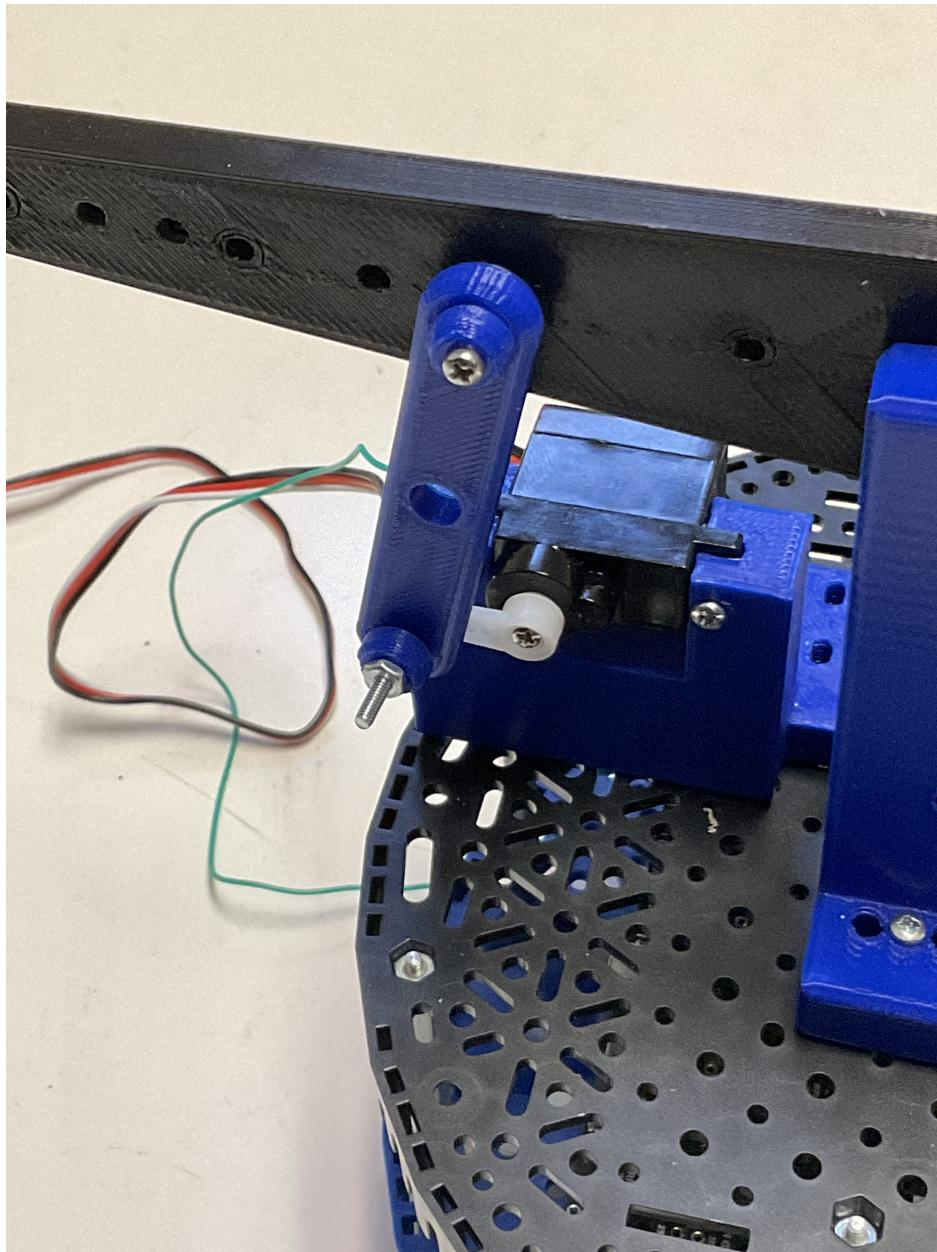

Figure 7: Coupler attachment.
5. Using 3/4" screws and the provided bushings, attach the coupler to the servo horn and arm, as shown in Figure 7. Use the slightly larger hole near the end of the horn – the screw will be a tight fit, so be gentle when screwing the couple on. You will want to screw from the horn side so that the excess screw length doesn't interfere with the servo motion.